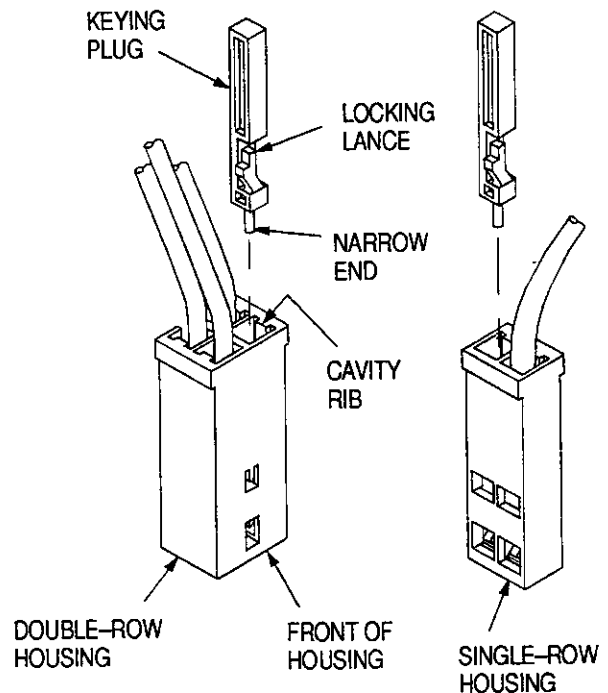

Figure 4
3.3. Inserting Keying Plugs into Housings (Figure 4)